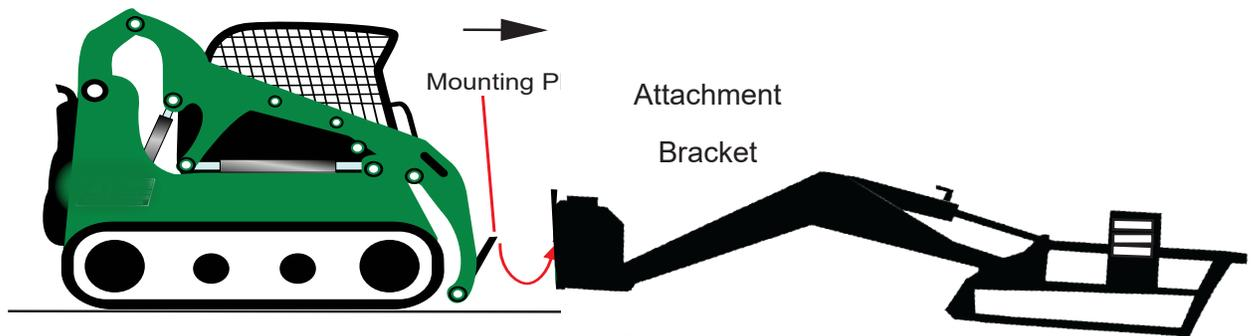

FIGURE 3.2A - SKID STEER QUICK ATTACH COUPLER TO ATTACHMENT BRACKET
2. Tilt the skid steer loader Quick Attach Coupler slightly down and drive forward to the rear of the cutter until the top edge of the Quick Attach Coupler hooks under the lip of the attachment bracket. See figure 3.2a below.
3. Slightly tilt the skid steer Quick Attach Coupler upward until the Swing Boom Cutter attachment bracket is flat against the skid steer Quick Attach Coupler. See figure 3.2a below.